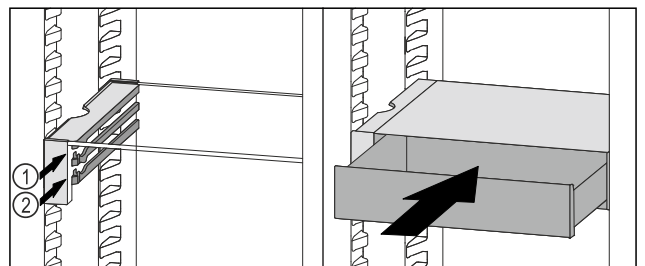

Fig. 38
- Place the VarioSafe drawer behind the stoppers on desired rib Fig. 38 (1) or Fig. 38 (2).